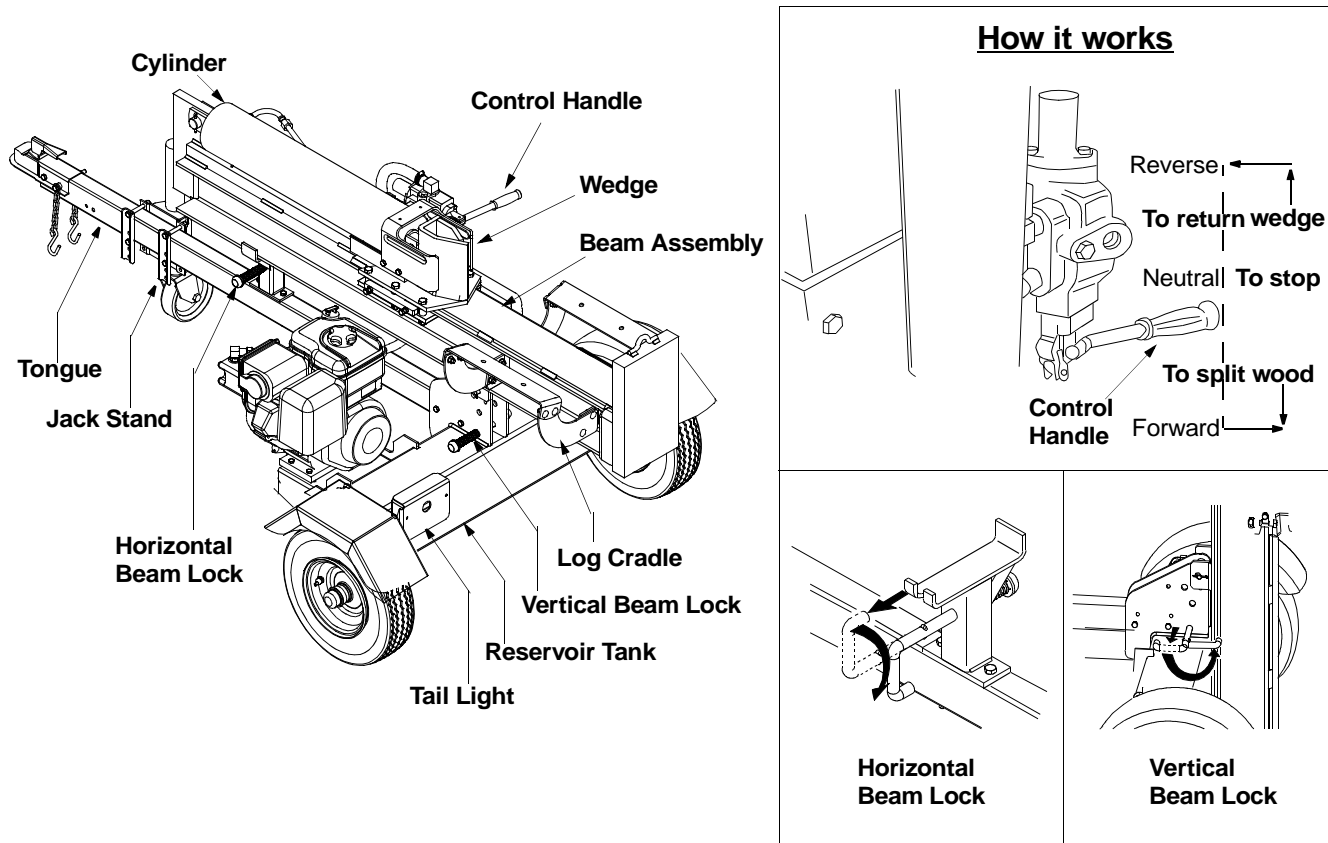

Figure 13
Compare the illustration in Figure 13 below with the controls on your log splitter, and get familiar with its features before starting to operate. Know how to stop the machine quickly in the event of an emergency.
The control handle has three positions. See Figure 13.
These two locks, as their name suggests, are used to secure the beam in the horizontal or the vertical position. The vertical beam lock is located next to the oil filter. The horizontal beam lock is located on the beam support latch bracket. See Figure 13.
- To lock the beam in the vertical position, pull out on the vertical beam lock and rotate it to secure the beam. See Figure 13.
- Pull the vertical beam lock out and rotate it down. See Figure 13. Pivot beam to the horizontal position. The beam will lock automatically in horizontal position.
- Pivot beam lock down to release the beam. Carefully pull back on beam and lower it to the horizontal position. See Figure 13.